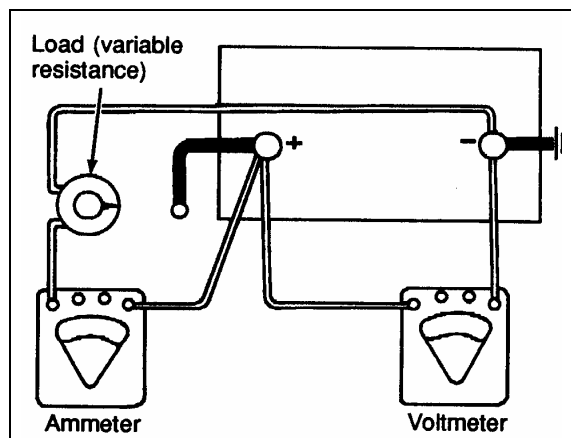

FIGURE 11: LOAD TEST
1. Connect a voltmeter, ammeter, and a variable load resistance as illustrated in figure 11.